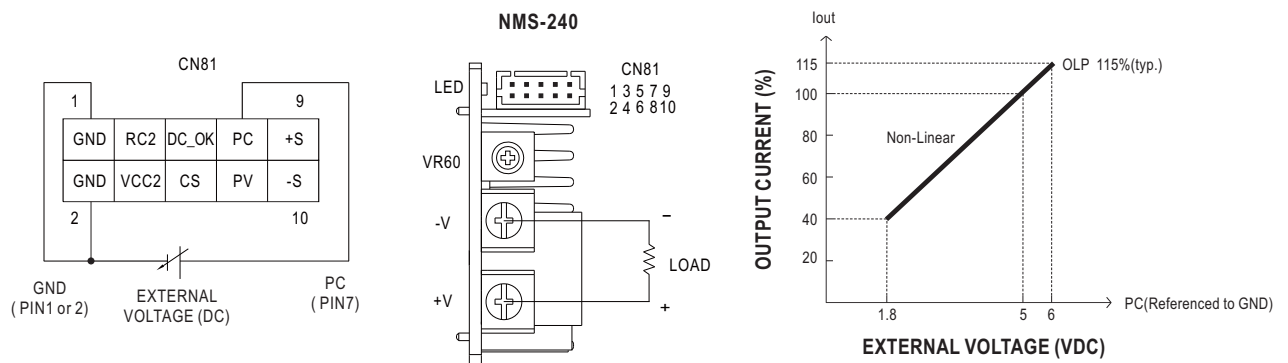

Figure 5-2
- ⊙ The constant current level can be trimmed to 40~100% of the rated current by applying external DC voltage. Connection diagram and relationship curve are shown in Figure 5-2.